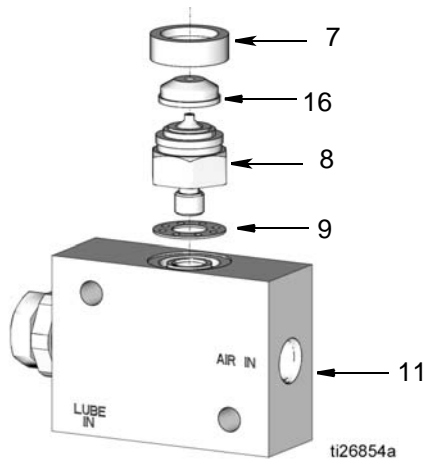

FIG. 6
- Remove the air valve spray assembly (7, 8, 9, 16) (FIG. 6). Separate all parts.